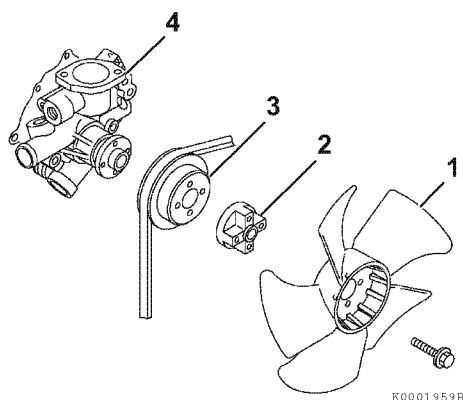

Figure 9-4
1. Remove the engine cooling fan guard (if equipped), engine cooling fan (1, **Figure 9-4**), spacer (2, **Figure 9-4**), engine coolant pump V-pulley (3, **Figure 9-4**) and V-belt.